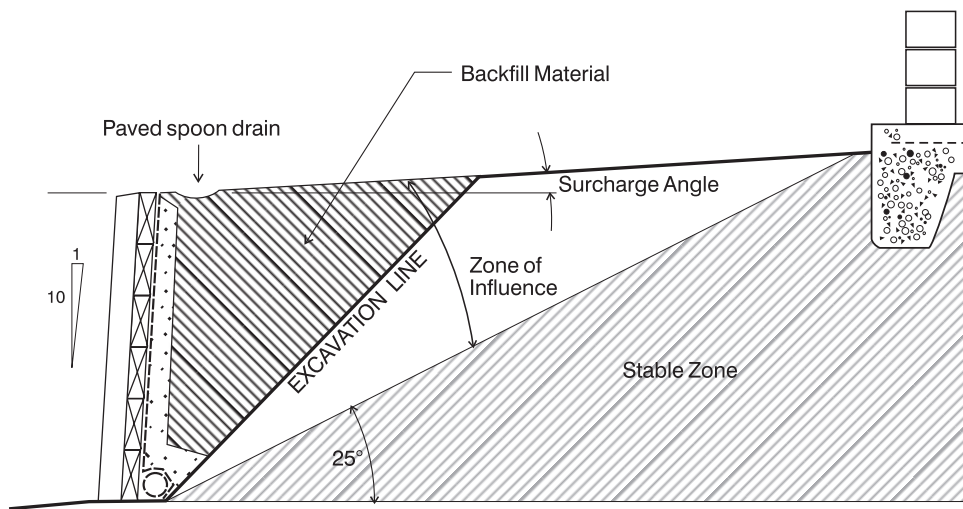

Figure 3 - Stable zone
The horizontal force generated by the vertical load of permanent structures can have significant impact on the performance of retaining structures. Permanent structures include (but are not limited to); buildings, pools, roads, parking areas, water tanks, general storage. If any such structures will impact within the zone of influence, as per Figure 3, the retaining wall design should be referred to a structural/geotechnical engineer. Fences of lightweight materials (timber, metal etc.) constructed on or above the wall do not impact on the design of the walls.
A retaining structure constructed within the zone of influence of another retaining structure will apply additional loads to the lower wall. Terraced walls require specific design by structural/geotechnical engineers. This includes installing a new retaining wall above or below an existing retaining structure. The attached tables should not be used for designing any retaining structure with an existing or future retaining structure above or below such that the upper wall impacts within the zone of influence of the lower, as per Figure 3.
If a typical house foundation is located within the stable zone (shown shaded in Figure 3) then it is outside the zone of influence and its presence will have a negligible effect on the stability of the wall. If this is the case, then the accompanying tables are valid, if otherwise refer to a structural/geotechnical engineer for a specific design.
- At the setting out stage (before excavation) check that the structures above the wall, such as house foundations, are sufficiently remote not to be affected. Refer to Figure 3 for these limitations.